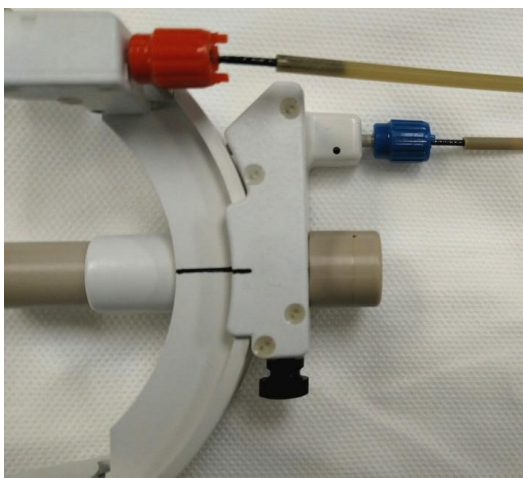

Figure 108: Thumbwheel Extension wings seated into SMARTFrame Thumbwheels
2. Attach the distal ends (wings) of the Thumb Wheel Extension Set to the matching colored thumb wheels on the SMARTFrame Array. **See Figure 108.**
3. The Thumb Wheel Extension Set thumb wheels may require rotation to properly orient the wings into the SMARTFrame Array thumb wheels. The wings should slide to the bottom of the thumb wheels and seat into place. **See Figure 108.**